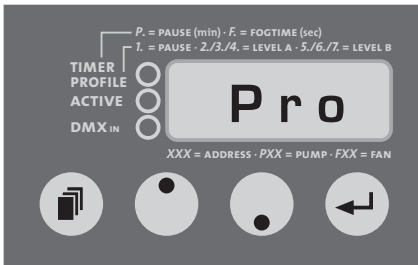

Fig. 4: Changing to the Profile-Mode
- a) Press the Mode button repeatedly [14], until „Pro“ appears on the display (see Fig. 4).